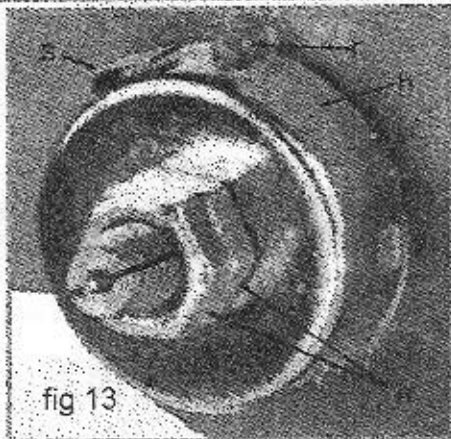

fig 13
3. Use needle nose pliers or a screwdriver thrust into the loop (s, fig 13) to hold the spring in place.
4. Loosen the two housing nuts (n, fig 13) approximately 1/4" (6 mm). Do not remove the nuts from the threaded shaft.
5. While holding tightly to the spring housing (h, fig 13), carefully pull it out until it clears the raised notch (r, fig 13).